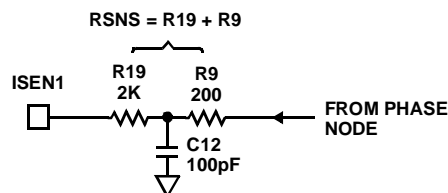

FIGURE 5. NOISE FILTER FOR ISEN1 INPUT
2. A 'T' filter consisting of a 'split' RSNS and a small, 100pF, capacitor as shown in Figure 5, may be helpful in reducing noise coupling into the ISEN input. For example, if the calculated value of RSNS1 is 2.2K $\Omega$ , dividing it as shown with a 100pF capacitor provides filtering without changing the current limit set point. For any calculated value of RSNS, keep the value of the R9 portion to approximately 200 $\Omega$ , and the remainder of the resistance in the R19 position. The 200 $\Omega$  resistor and 100pF capacitor provide effective filtering for noise above 8MHz.